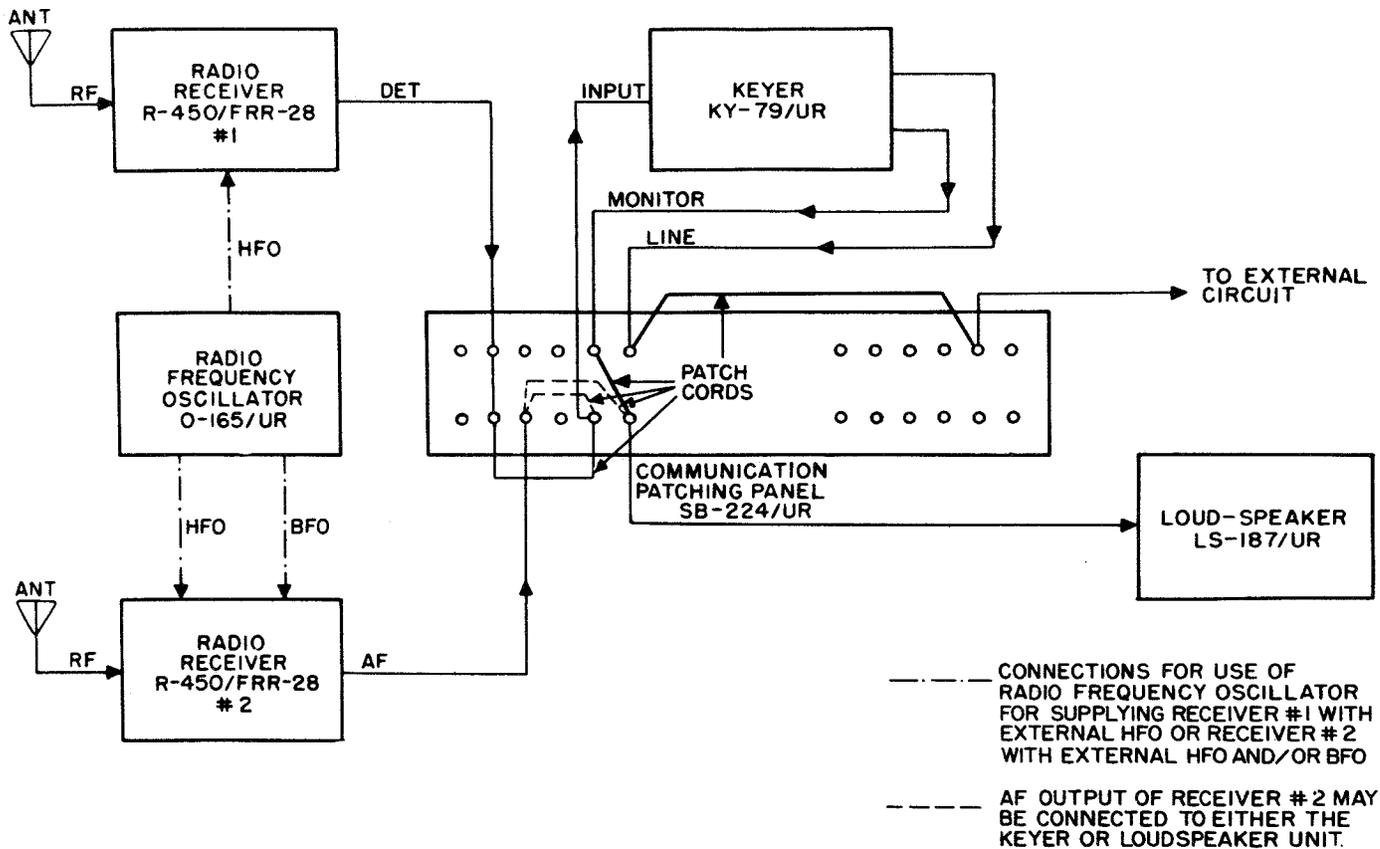

Figure 2-2. Radio Receiving Set AN/FRR-28, Block Diagram,
*b. INDIVIDUAL RECEPTION OF CW SIGNALS.* (See figure 2-2.)—The keyed telegraph signal from the antenna is preselected, amplified, and detected in the receiver. The detected signal is fed directly to Communication Patching Panel SB-224/UR in receiver #1. In receiver #2 the detected signal is mixed with a BFO voltage from the receiver or Oscillator O-165/UR, to produce an audio tone which is then fed to SB-224/UR. The detected signal from receiver #1 or the audio tone from receiver #2 is fed through SB-224/UR and a patch cord to Keyer KY-79/UR. The Keyer KY-79/UR monitoring output is fed through SB-224/UR and a patch cord to Loudspeaker LS-187/UR. The line output of Keyer KY-79/UR is applied to SB-224/UR and a patch cord to an external circuit, such as a teletypewriter, which operates on the tone signal produced by the Keyer KY-79/UR. The audio output of receiver #2 may be fed directly to Loudspeaker LS-187/UR instead of Keyer KY-79/UR.